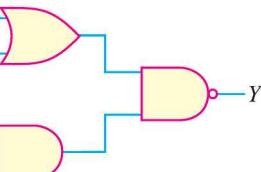

Fig. 26.61
13. Write the Boolean expressions for the logic circuits shown in Fig. 26.61.